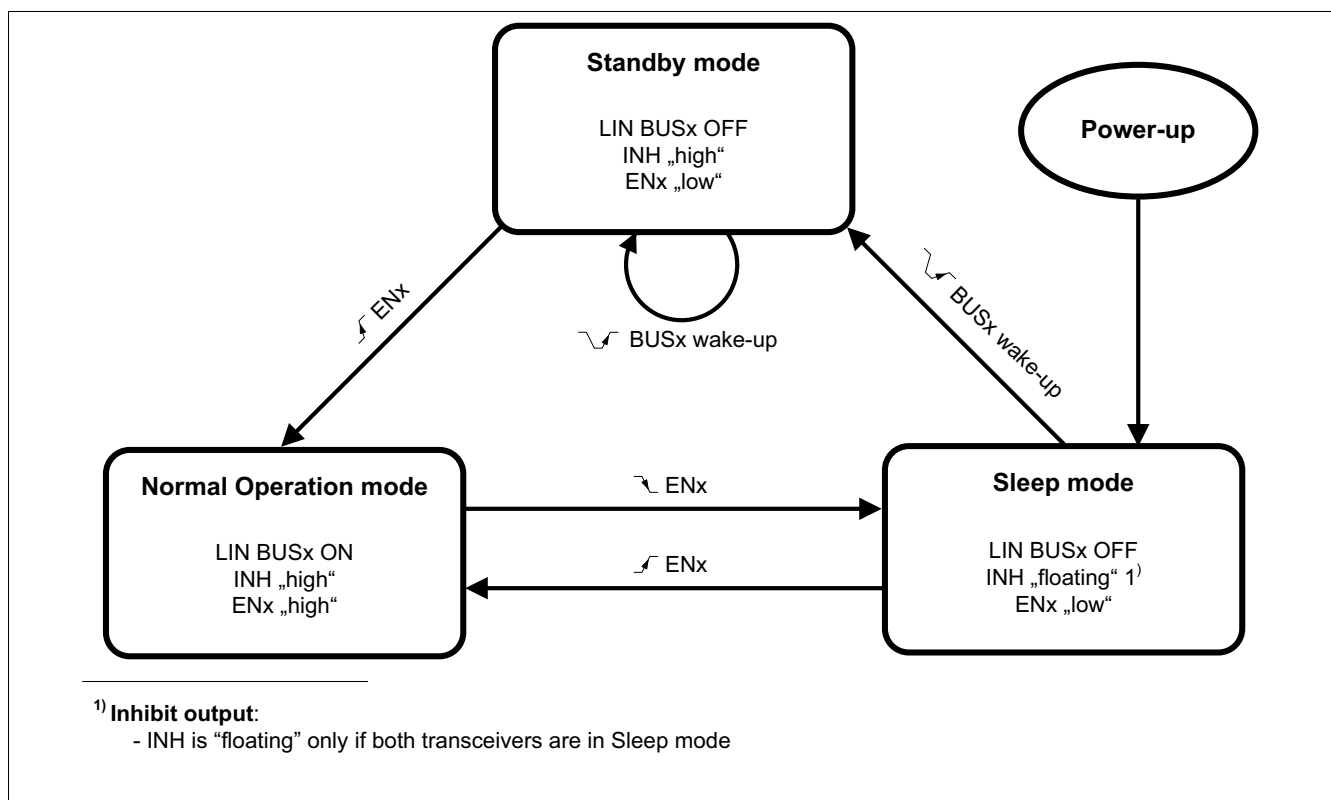

Figure 4 Operation mode state diagram
The transceivers of the TLE7268 have the following major operation modes (see Figure 4):
- The RxDx output indicates a wake-up event (see Figure 4).